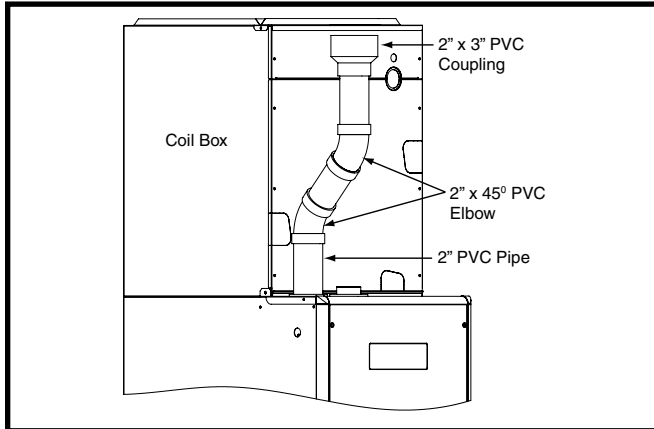

Figure 22. Optional PVC Pipe Installation
- If the size of the PVC flue needs to be increased from 2" to 3", two, 2" x 45° PVC elbows may be used to achieve the clearances needed between the coil box and the 2" x 3" coupling. See Figure 22 \(page 21\).